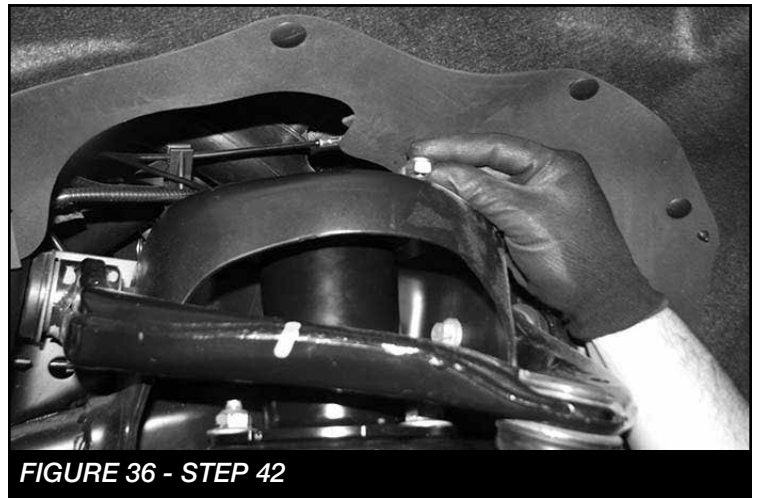

FIGURE 36 - STEP 42
37. Install the coil over into the frame bucket using the supplied 7/16" hardware. Torque 59 ft-lbs. **SEE FIGURE 36**